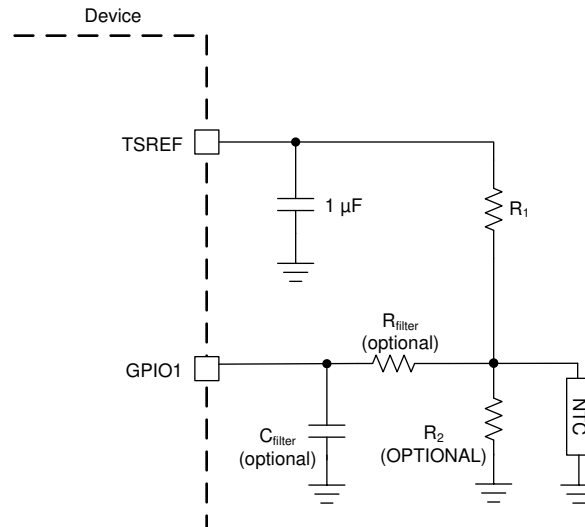

Figure 8-3. Thermistor Connection
Figure 8-3 shows the thermistor circuit when GPIO is enabled for thermistor measurements. MCU ensures TSREF is enabled by setting *CONTROL2[TSREF_EN]* = 1 and settled before taking the measurement value.
- $R1$ is the pull-up resistor as shown in Figure 8-3 with the assumption the $R2$ is not used